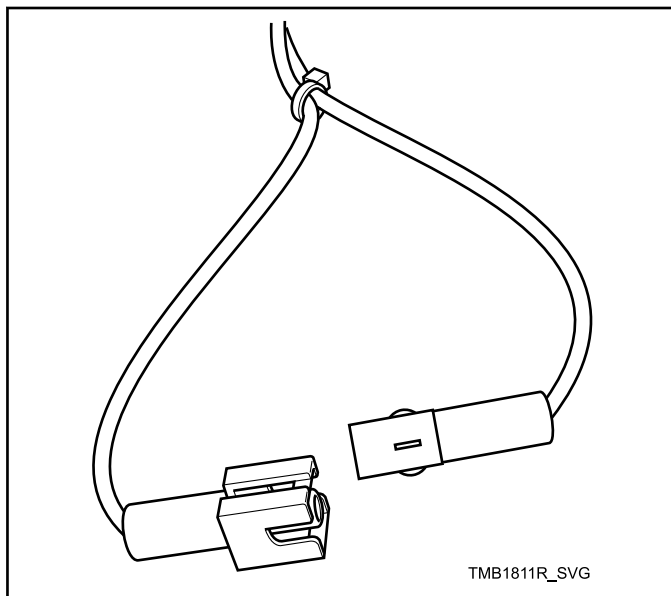

Figure 2
Open service door and disconnect bullet connector located between the "white/black" and "red/blue" wires for one second, then reconnect. Refer to *Figure 2*.
- b. For Stacked Tumble Dryer: Open service door and disconnect bullet connector located between the "white/black" and "red/blue" wires for one second, then reconnect. Refer to *Figure 2* .